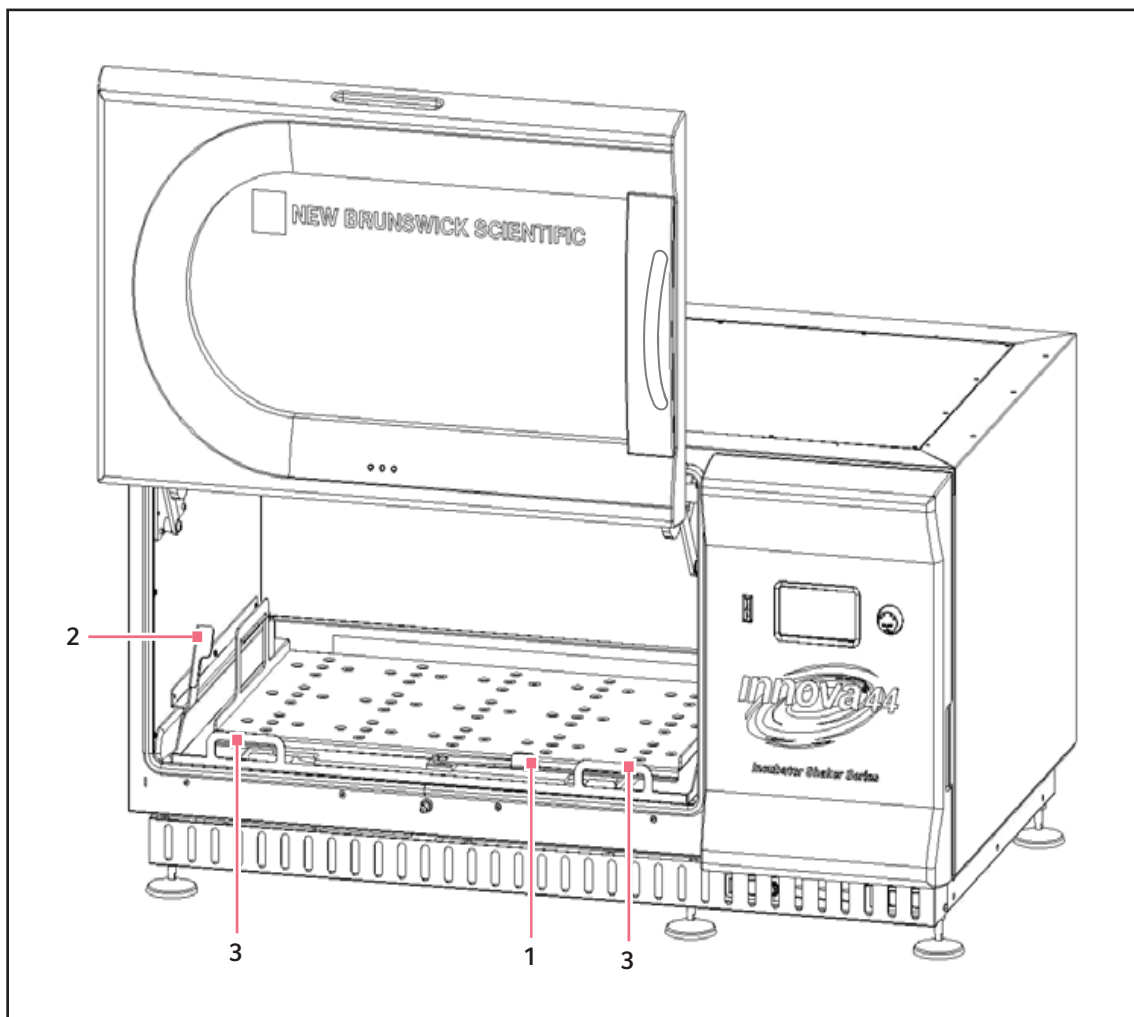

Fig. 9-16: Disengaging Slide-Out Platform
2. Rotate cam lever located on the subplatform (see Fig. 9-16 on p. 69) 180 ° clockwise. It should be pointing to the left.
3. Pull both side levers (see Fig. 9-16 on p. 69) down. This will disengage the platform from the subplatform.
4. Pull both handles on the slide-out mechanism (see Fig. 9-16 on p. 69) toward you. This will move the platform to an easily accessible position.